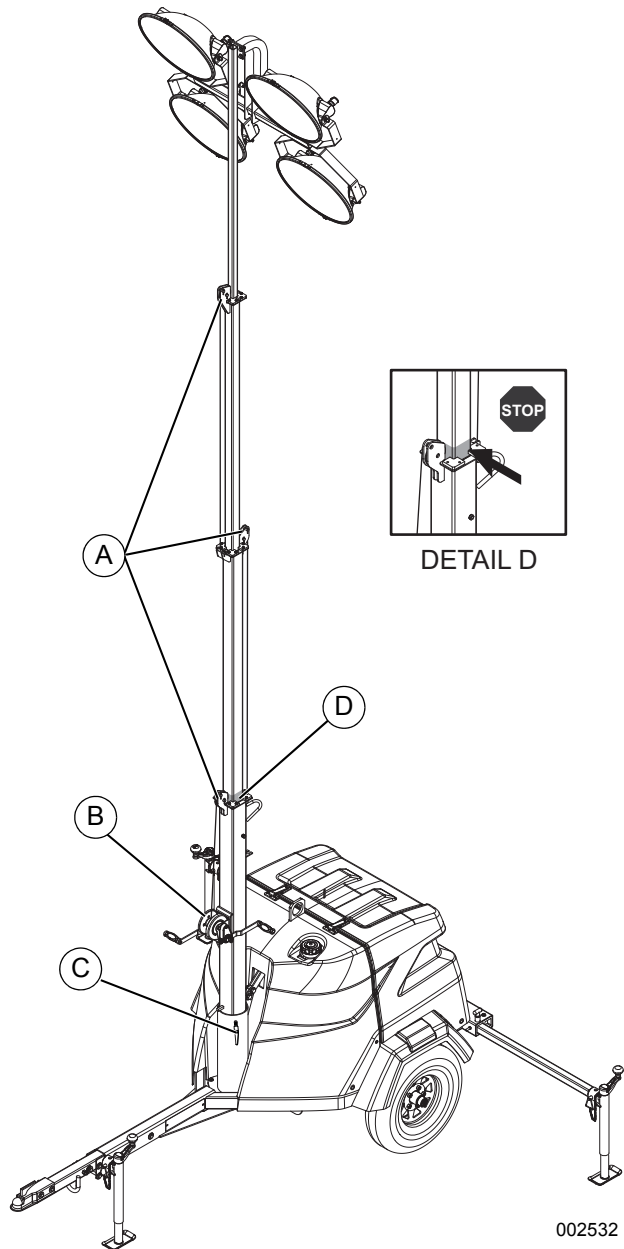

Figure 3-2. Pulley Locations - Manual Winch
2. See Figure 3-2. Check the mast cables for excessive wear or damage. Verify the cables are properly centered in each pulley (A). Check the electrical cord for damage.
3. Rotate the mast by loosening the mast rotation knob (C) at the bottom of the mast. Turn the mast until the lights face in the desired direction, and then tighten the mast rotation knob to secure the mast in position.
4. Using both hands, rotate the winch (B) to slowly extend the mast, making sure that the coiled electrical cord is extending at the top sections of the mast. STOP extending the mast when the colored mark (D) on the second mast section is visible as seen in Detail D.